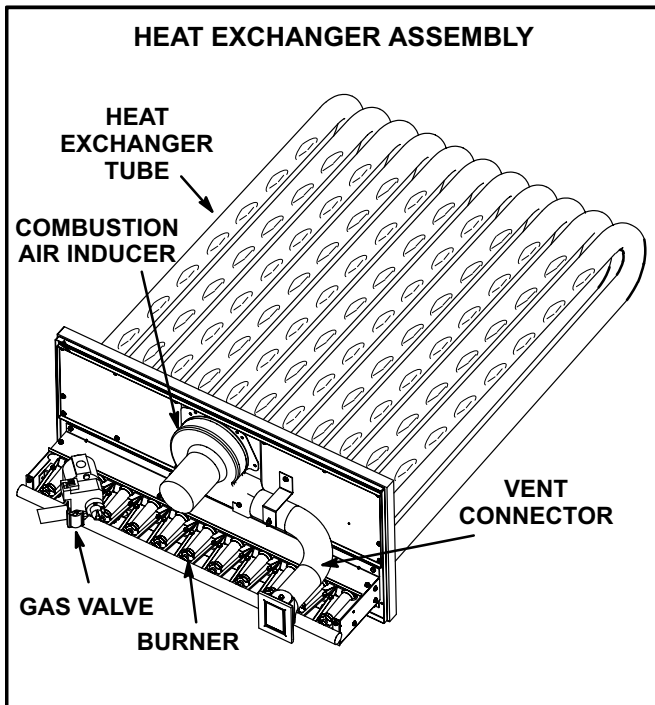

FIGURE 21
- 3- Remove and retain screws securing combustion air inducer to flue box. Remove and retain two screws from bracket supporting vent connector. See figure 21.